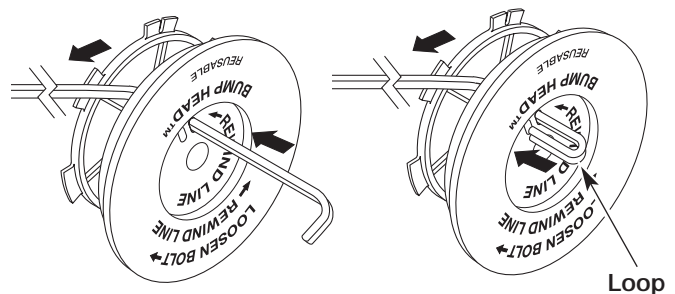

Figure 18
8. Cut approximately 12 feet (3.65 m) of new trimming line. Insert one end of the line through one of the two holes in the inner reel. Pull the line through the inner reel until only about 4 inches is left out. See Figure 18.
9. Insert the end of the line into the open hole in the inner reel and pull the line tight to make the loop as small as possible. See Figure 18.